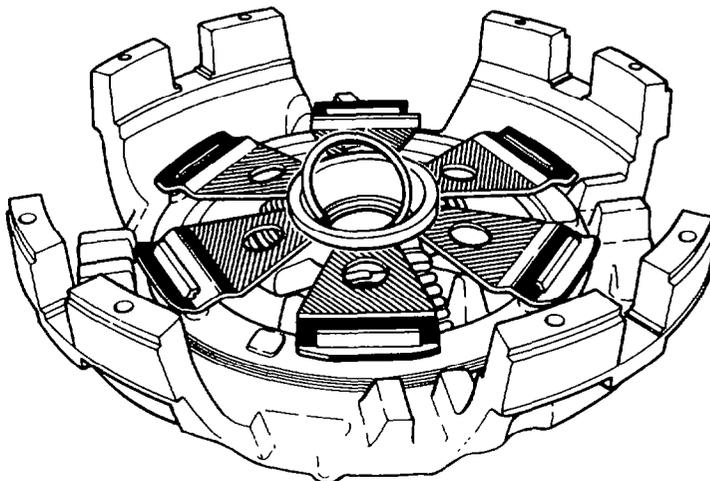
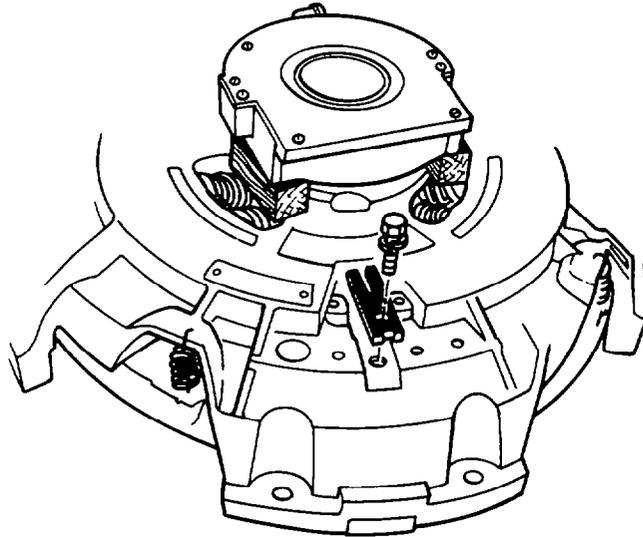

Fig. 167 — Snap-ring Installation
Fig. 168 — Lock Tab Installation
- h. Install the snap-ring (see fig. 167) and locking mechanism for the adjusting ring; install and tighten the securing bolt (see fig. 168).